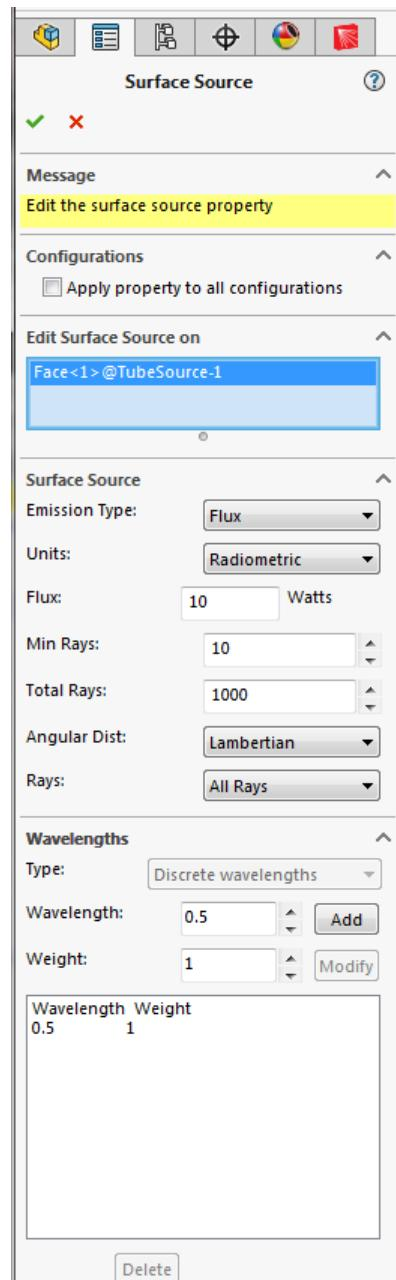
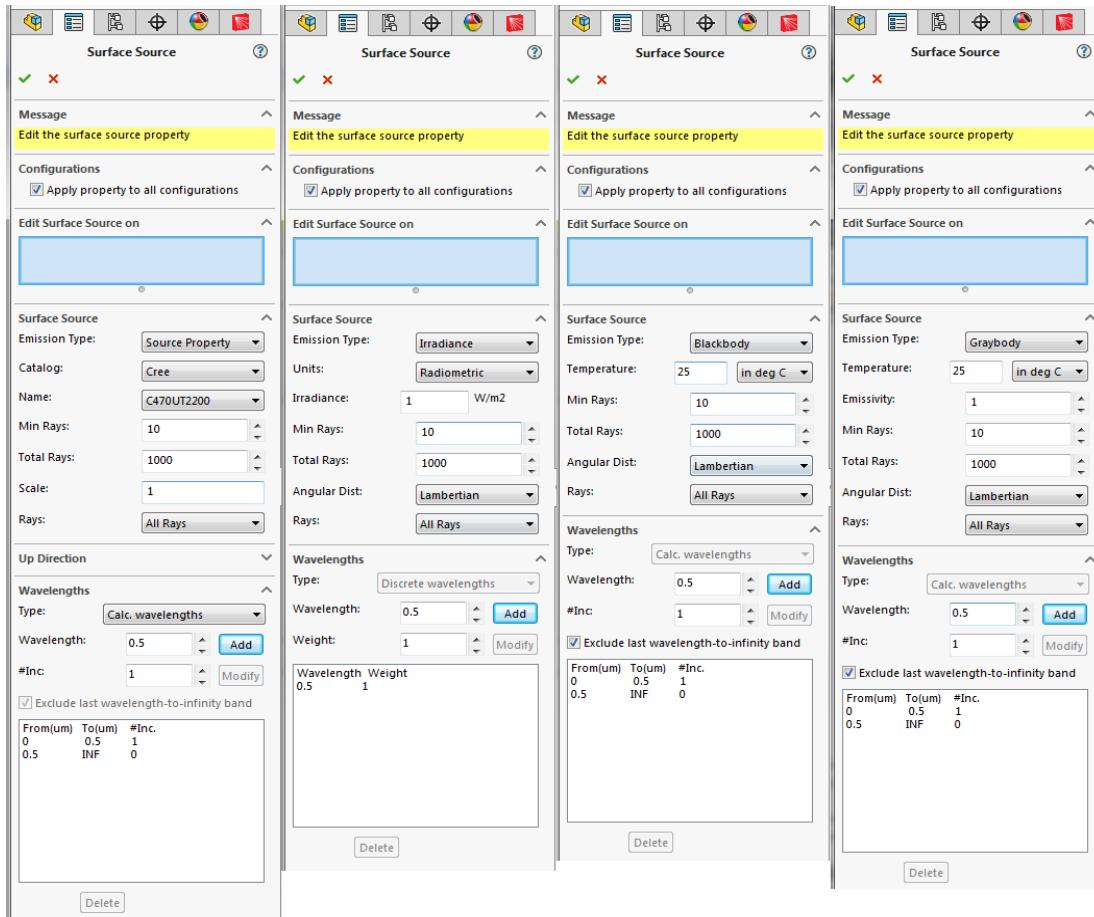

Figure 4.12 Surface Source Property Manager – Flux Emission Type
Figure 4.13 Surface Source Property Manager – For Source Property, Irradiance, Blackbody and Graybody.
- In the **Surface** Source Property Manager, specify the Surface Source property type. The option that you select changes the fields on the Surface Source tab. Select from the following: Source Property, Flux (Figure 4.12), Irradiance, Blackbody or Graybody. The property manager pages for the other types are shown in Figure 4.13. The Source Types are described below.
Figure 4.13 shows the property manager pages for the other emission types. The following bullets describe each of the emission types. There are five types of surface source properties in RayViz. Two types emit discrete wavelengths (flux and irradiance). The other two types emit continuous wavebands (blackbody and graybody). The fifth type, Surface Source Property, can emit either discrete wavelengths or calculated wavelengths.